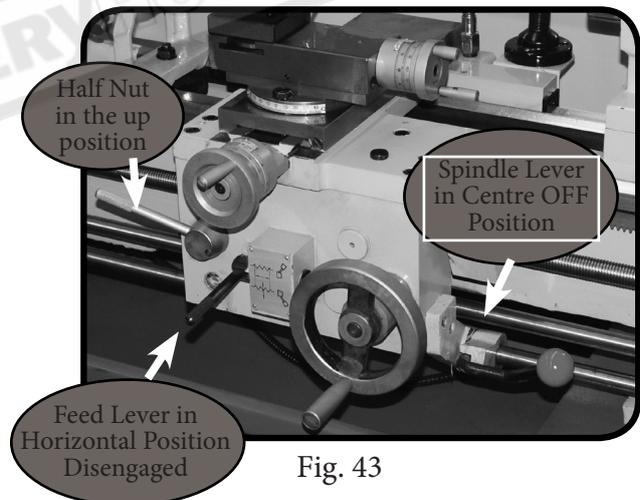

Fig. 43
a. To ensure the carriage components do not unexpectedly move during the following steps, disengage the half nut lever and feed selection lever (see Fig. 43).
b. Make sure the spindle lever is in the middle OFF position (Fig. 43)
e. Move the spindle lever (Fig. 43) down to start the spindle. The top of the chuck should turn down and toward the front of the lathe.